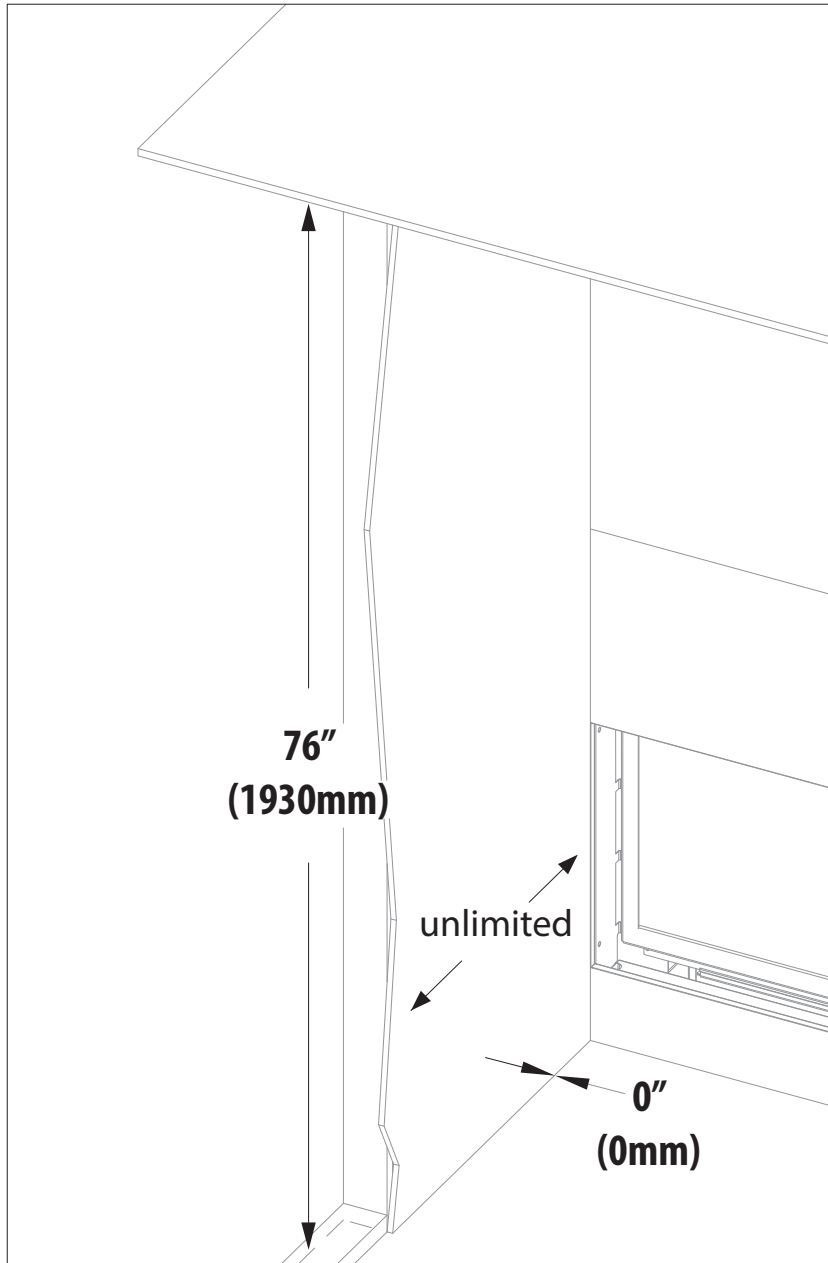

FIGURE 4.3 *Standard Installation Adjacent Sidewall Clearances - No Surround*
- **Mantel Leg:** Follow 'side combustible clearance' below. See FIGURE 4.3 on page 37. *If installing an optional surround*, refer to Measurement 'A', in Section 4.4 Finishing Guidelines for Optional Surrounds on page 42, for the space required from the optional surround sides to finishing material.
- **Side Combustible Clearance:** Unlimited combustible side trim can be flush to the side finishing edge. See FIGURE 4.3 on page 37. *If installing an optional surround*, refer to Measurement 'A', in Section 4.4 Finishing Guidelines for Optional Surrounds on page 42, for the space required from the optional surround sides to finishing material.
- The adjacent sidewall minimum clearance is 0" (0mm) from the side finishing edges of the fireplace. See FIGURE 4.3 on page 37. *If installing an optional surround*, refer to Measurement 'A', in Section 4.4 Finishing Guidelines for Optional Surrounds on page 42, for the space required from the optional surround sides to finishing material.